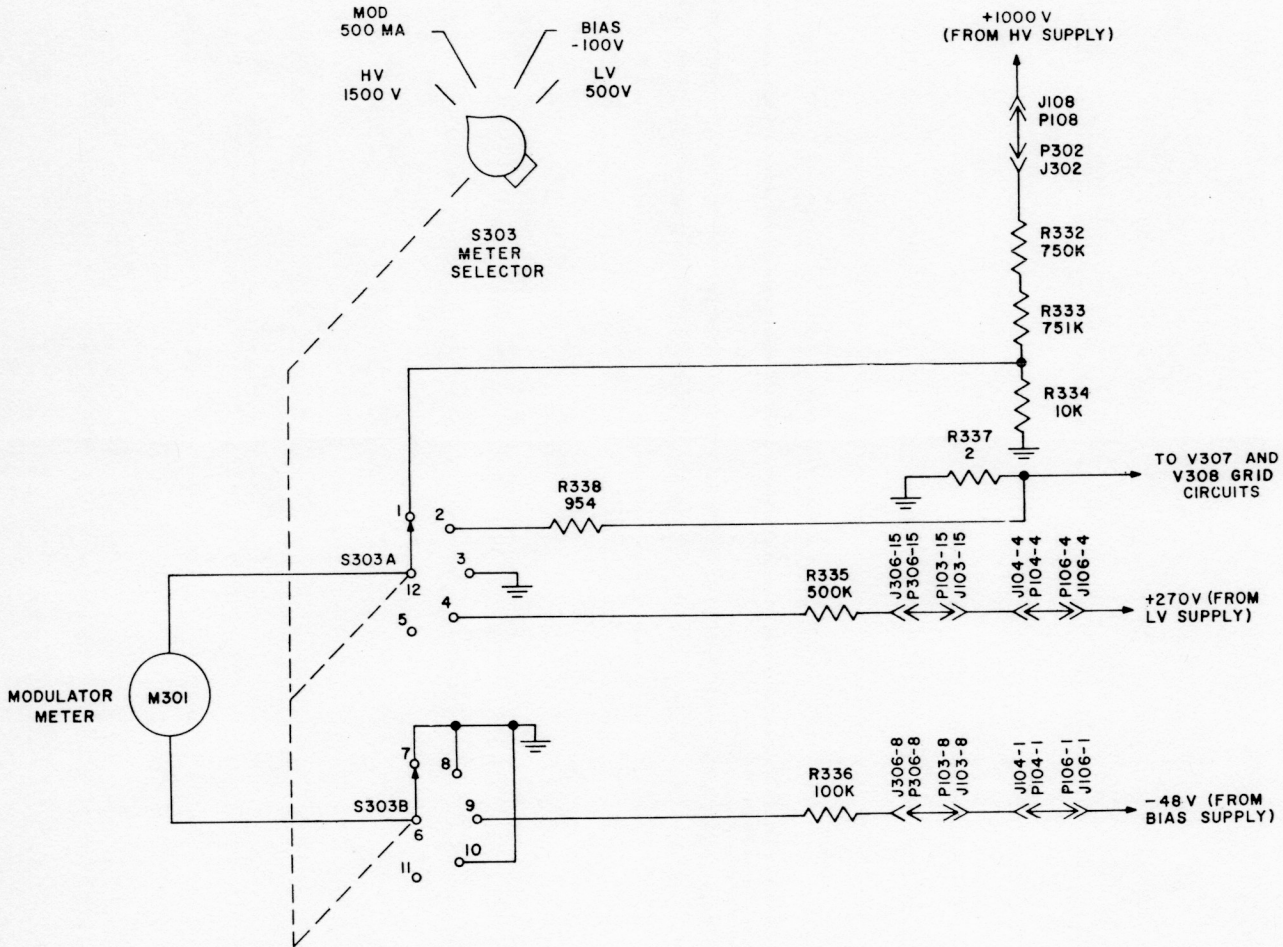

Figure 4-11. Modulator Meter Circuit, Simplified Schematic Diagram
g. MODULATOR METER. - (Refer to figure 4-11.) The Modulator Unit metering circuit is composed of meter M301 and two-pole, five position, meter selector switch S303. In its first, or HV, position, the switch shunts the meter across resistor R334, one element of a voltage divider network which also includes resistors R332 and R333. The voltage divider is connected in parallel with the bleeder of the high voltage supply. For its HV setting, the meter provides an indication of the +1000 v output of the high voltage supply on its 0-1500 v scale. In its second position, the selector switch shunts the meter across R337, in the common grid circuit of modulator tubes V307 and V308. For this setting, the meter provides an indication of the combined grid currents of the two tubes on its 0-500 ma scale. The normal reading for this current is 45 ma with no modulation component present, and 250 ma with the modulation component present. In its third position, the switch connects the meter across the bleeder of the bias supply. For this setting the meter